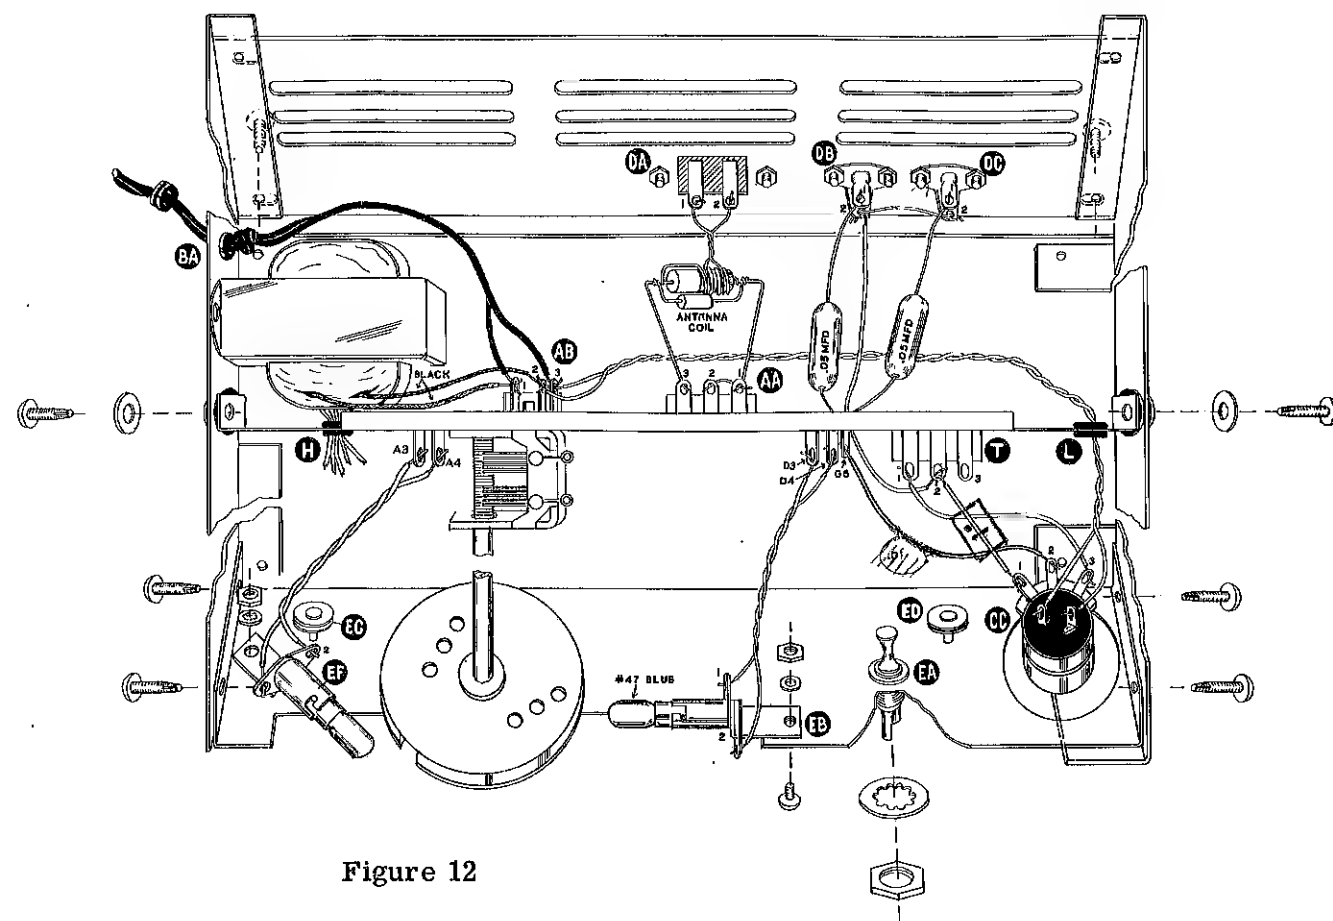
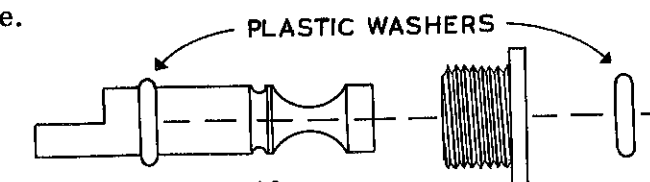
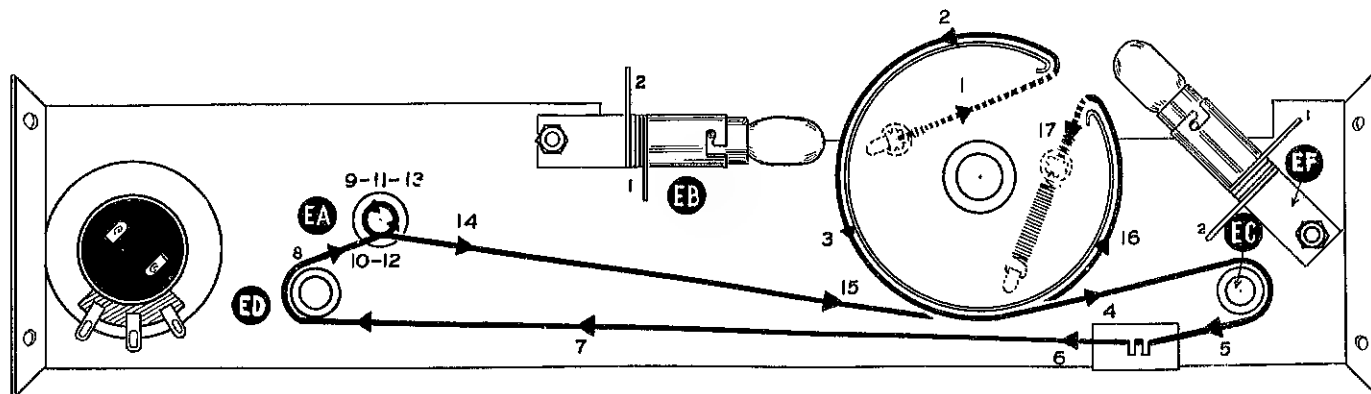

Figure 12
Figure 16
Figure 17
(✓) Mount bracket B on the left or tuning condenser end of the chassis, with the transformer fitting over the chassis top as shown in Figure 12. Place a 9/16" washer on a 6-32 self-tapping screw and insert through the spacer previously installed in grommet BH. Line the screw up with the top chassis opening and secure the assembly. Before completely tightening the screw, start the second self-tapping screw and washer through the bottom opening BJ. Now tighten both screws.
(✓) Install two 7/16" grommets in the large openings in the right hand bracket and insert the 3/16" metal spacers in each grommet. Install the bracket on the right hand end of the chassis in the same fashion. The large hole should be forward. See Figure 12.
- (✓) Mount pilot lamp socket EF on the dial plate with 6-32 hardware. Observe Figure 12 and 17.
- (✓) Mount the dial plate as shown in Figure 12, with the long cut-out facing upward. Secure with 6-32 self tapping screws in the four foremost holes in the end brackets.
- ( ) Install the back plate with the bent flange to the bottom. Use 6-32 self-tapping screws in the bottom holes at each end only, as shown in Figure 12.
- ( ) Connect one of the twisted leads of the antenna coil to terminal strip DA1 (S) (1) and the remaining lead to DA2 (S) (1).
- ( ) Connect a bare wire from connector ground lug DB2 (NS) to connector ground lug DC2 (S) (1).
- ( ) Connect the insulated wire appearing through chassis grommet K to connector ground lug DB2 (S) (2).
- ( ) Connect the free lead of the .05  $\mu$ fd 400 volt condenser previously bent toward socket B to connector DB1 (S) (1).
- ( ) Connect the free lead of the remaining .05  $\mu$ fd 400 volt condenser to connector DC1 (S) (1).
- (✓) Assemble the dial drive shaft assembly as shown in Figure 16. Begin by pushing one of the plastic "O" washers on the shaft from the flatted end until it falls in place in the slot provided for it. Do not use tools with sharp edges to force the washer over the edge of the flat, for it is possible that the washer will be broken. After the first washer is in place, put a small amount of lubriplate or vaseline on the shaft. Do not use an excessive amount since it may cause dial cord slippage. Install the bushing in the direction shown in Figure 16 and install the other plastic washer from the drive side of the shaft. A spare washer is furnished in case of accidental damage during installation.
- (✓) Mount the drive shaft assembly through the dial plate from the rear at location EA. Refer to Figure 12 and note that the bushing goes through the dial plate, a large lockwasher and a control nut. Tighten securely.
- ( ) Identify the two wires previously connected to socket D3 and D4. Connect one wire to pilot light socket EB1 (S) (1) and the other to EB2 (S) (1).
- ( ) Identify the two wires previously connected to socket A3 and A4. Connect one wire to pilot light socket EF1 (S) (1) and the other to EF2 (S) (1).
- (✓) Observe Figure 17 and install the dial cord assembly. Begin by hooking one of the eyelets over the ear provided on the tuning drum. Run the cord counterclockwise around the pulley (looking from the back of the tuner), around idler pulley EC, across the dial plate to idler pulley ED, around drive shaft EA3 turns and back to the bottom side of the drum. Bring the cord counterclockwise around the drum and through the opening. Hook the dial cord spring on the remaining ear on the drum and the other end of the spring to the eyelet on the dial cord.